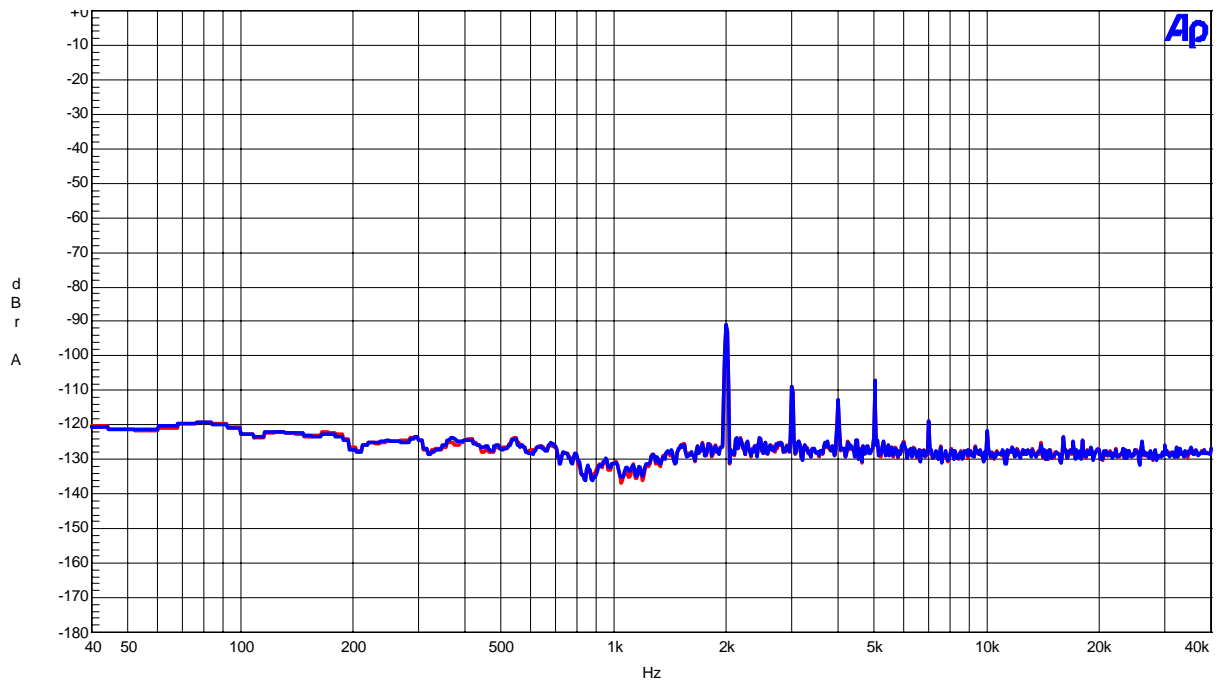

Figure 18. FFT(Input Frequency=1kHz, Input Level=0dBFS,Notch-on)
- Figure 18. FFT (Input Frequency =1kHz, Input Level =0dBFS,Notch-on)